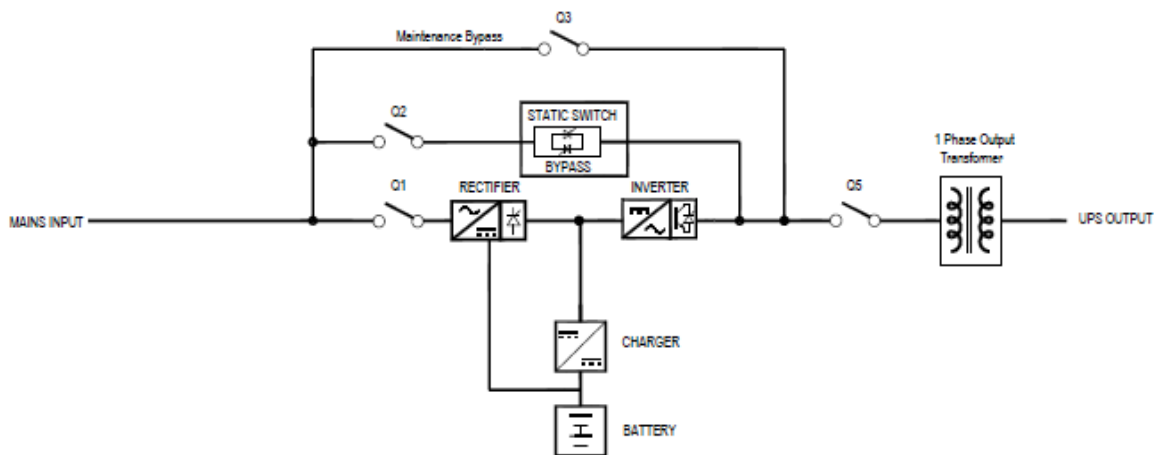

Figure 1.4 (3X1 UPS with Output Transformer)
The operating principle of the UPS is shown in the figure 1-4.
2. When the mains is normal, the rectifier will start, and the charger will charge the battery string. Before turning on the UPS, the output voltage is bypass voltage, and the mains supplies power to the load through the bypass. After turning on the UPS, the electronic transfer switch connects the inverter output to the load, and the mains supplies DC power to the inverter through the rectifier/PFC circuit. The inverter then converts DC power into pure sine wave AC power and supplies the AC power to the load through electronic transfer switch. Isolation Transformer is connected at the output side for 3X1, Refer figure 1.4 for the position of Output Isolation Transformer. Output is fed to Load through Contactor because of Transformer at Output side.